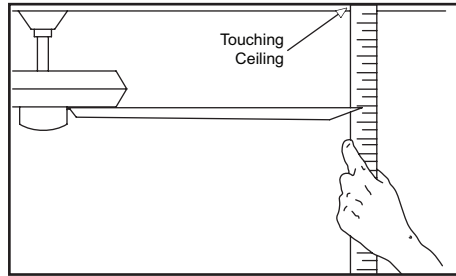

Figure 17
2. Most fan wobble problems are caused when blade levels are unequal. Check this level by selecting a point on the ceiling above the tip of one of the blades. Measure from a point on the center of each blade to the point on the ceiling. Measure this distance as shown in Figure 17. Rotate the fan until the next blade is positioned for measurement. Repeat for each blade. Measurements deviation should be within 1/8". Run the fan for 10 minutes.